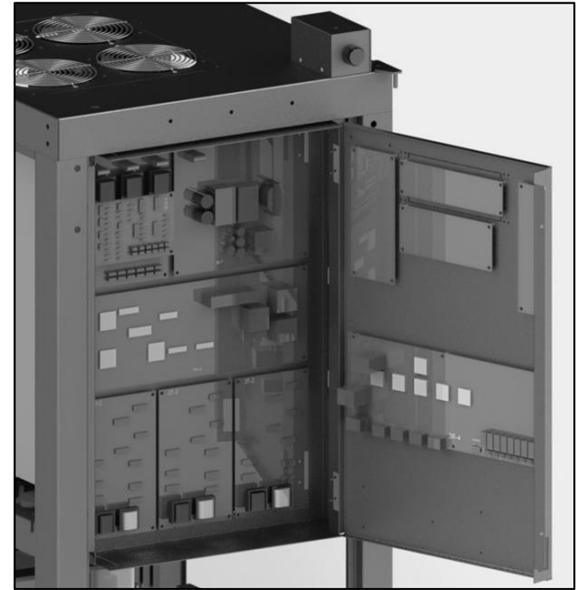

Figure 15—Location of 3R
- 4** Connect the appropriate cable to the correct communication port on the 3R board (Figure 15).